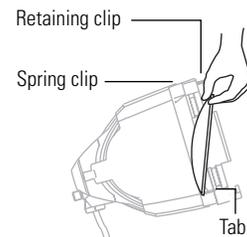

Figure 4
3. Hold the lens by the edge, and position it so the convex side faces the back of the fixture (**Figure 4**).